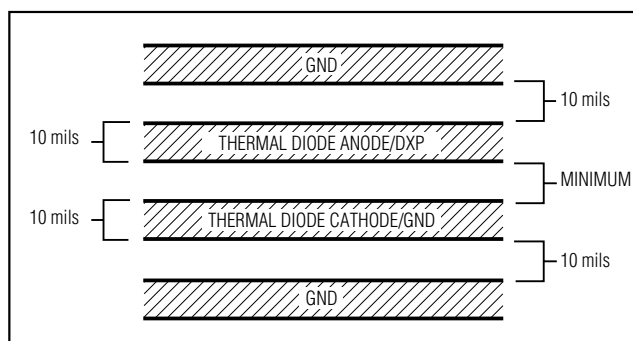

Figure 4. Recommended DXP PC Traces
- 4) Route the thermal diode traces in parallel and in close proximity to each other, away from any higher voltage traces, such as $+12\text{VDC}$. Leakage currents from PC board contamination must be dealt with carefully since a $20\text{M}\Omega$ leakage path from DXP to ground causes about $+1^{\circ}\text{C}$ error. If high-voltage traces are unavoidable, connect guard traces to GND on either side of the DXP trace (Figure 4).
- 7) Use wide traces. Narrow traces are more inductive and tend to pick up radiated noise. The 10-mil widths and spacing recommended in Figure 4 are not absolutely necessary, as they offer only a minor improvement in leakage and noise over narrow traces. Use wider traces when practical.